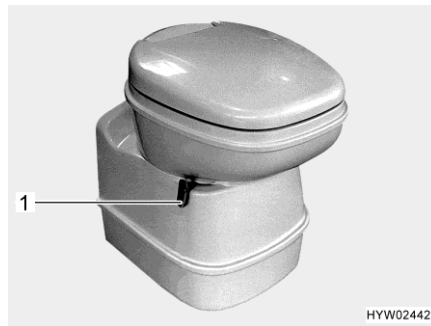
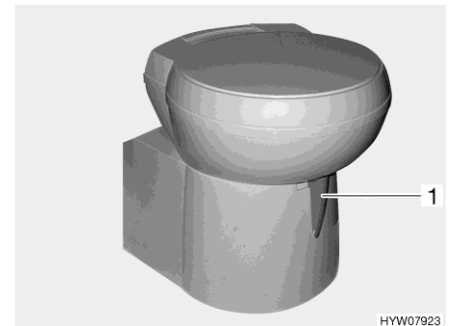

Fig. 199 Thetford toilet bowl, swiveling
Fig. 200 Thetford toilet bowl, swiveling (alternative)
- Before flushing open the sliding trap of the Thetford toilet. To do this, push the slide lever (Fig. 199,1 or Fig. 200,1) in an anticlockwise direction.